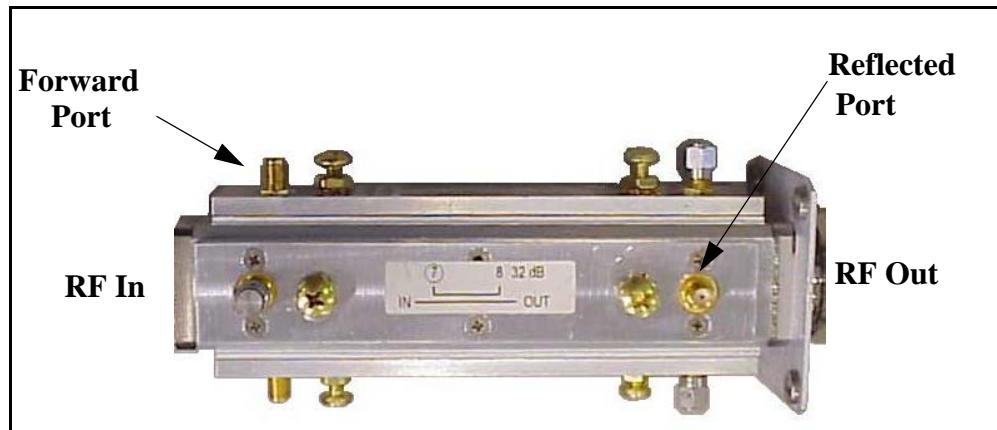

Figure 5-6
STEP 2 Install a directional coupler at the output of the transmitter. The directional coupler must be capable of handling the rated transmitter output power and have defined coupling values to allow accurate measurements of forward power levels. A typical coupler is shown in Figure 5-6.
Couplers like the one shown in Figure 5-6 use one port as a coupled port while the opposite port is terminated in an external 50 ohm load. The load must be installed in order to perform accurate measurements.